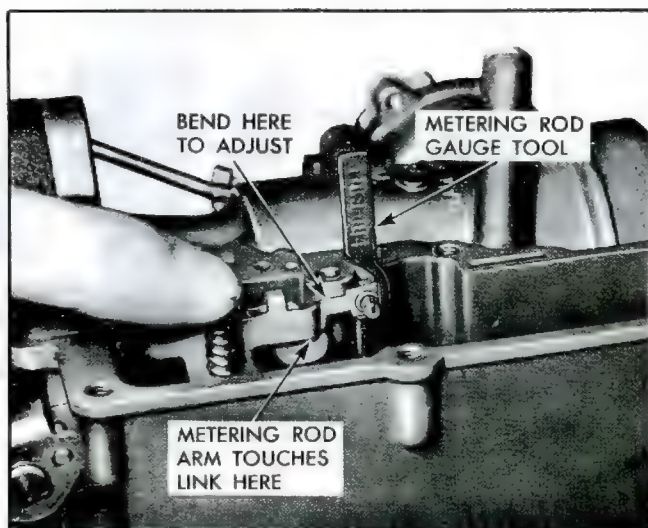

Fig. 30—Adjust Metering Rod Arm
- b. Remove metering rod from carburetor and place Gauge Tool J-21056 in metering jet (fig. 30).
- c. Push down on pump diaphragm rod until the metering rod arm just touches the lifter link (fig. 30).